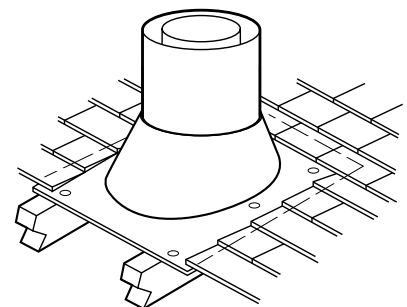

Figure 29
Step 7. Secure flashing by nailing along the perimeter into roof using 8d nails. If shingled roof, slide upper end and sides of roof flashing under shingles (trim if necessary), seal the top and both sides of the flashing to the roof with roof caulking. Cover nail heads with roof caulking (Figure 29).